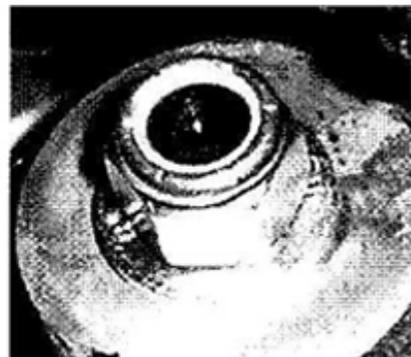

Figure 4
14. Insert the provided tapered stud into the knuckle. Install the hardened washer and nylon insert nut and torque to 47 Nm {35 lbf-ft} **Figure 4**